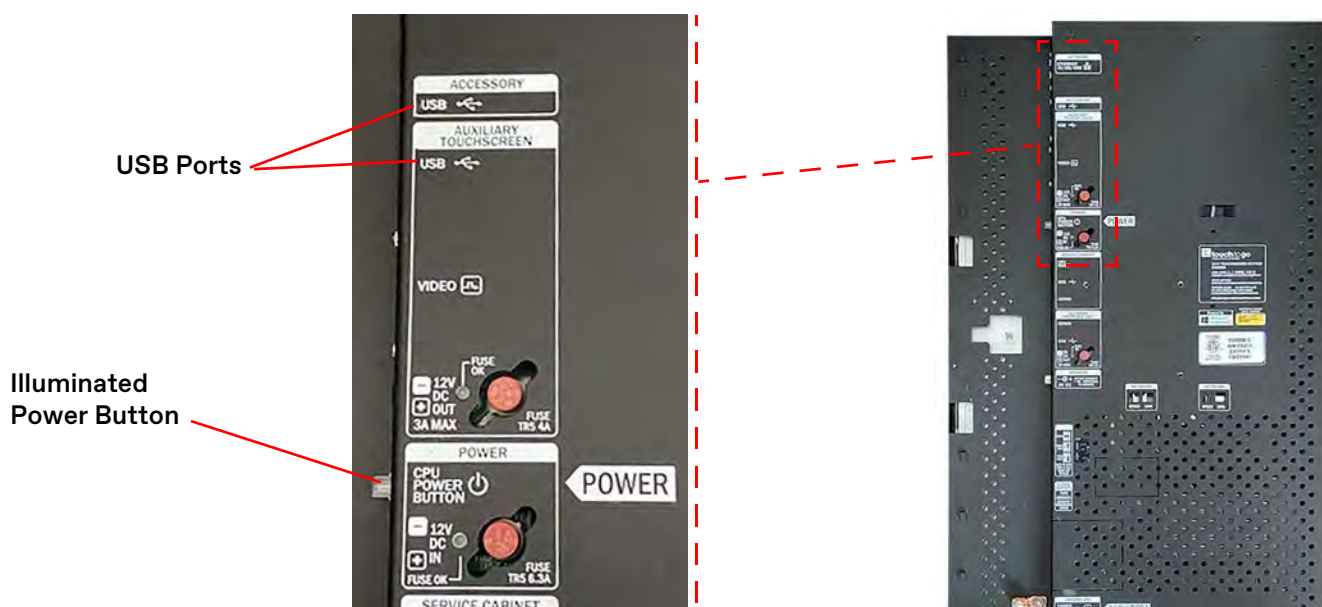

Figure 19 - Back View of LCP
2. Connect the USB/keyboard mouse combination to a USB port. The keyboard/mouse is now connected to the touch screen. See Figure 19.